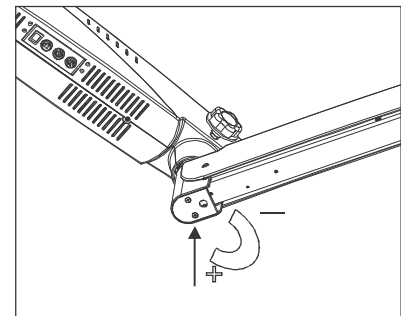

Fig. 20
2. Loosen two allen bolts by using allen wrench of 4 mm as shown in fig 20